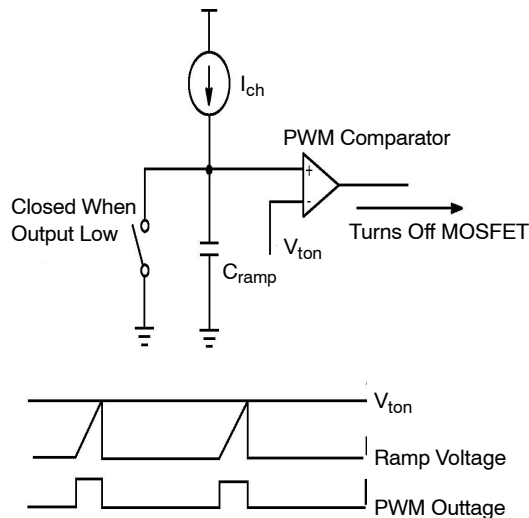

Figure 55. PWM Circuit and Timing Diagram
The NCP1605(A) operates in voltage mode. As portrayed by Figure 55, the MOSFET on time  $t_1$  is controlled by the signal  $V_{ton}$  generated by the regulation block and the Pin 4 ramp as follows: